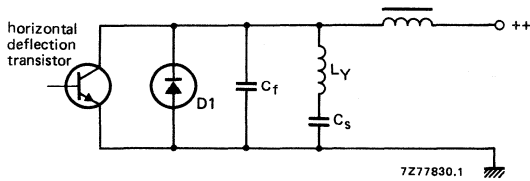

Fig. 9 Basic conventional horizontal deflection circuit. D1 = BY328.
- - - - Basic conventional horizontal deflection circuit, see Fig. 9.